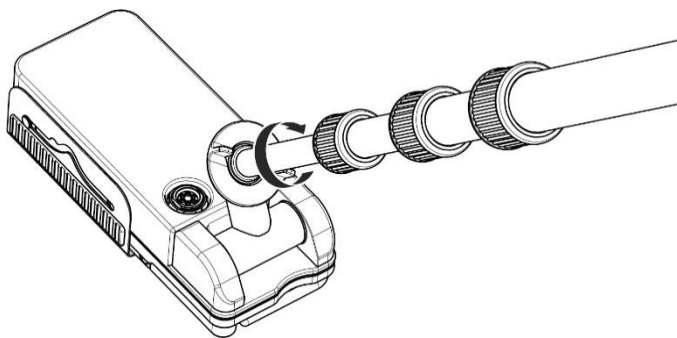

Figure 2.9 – Fixing telescopic tube to ABG probe
2.2.6.3 Screw the telescopic tube on the ABG probe's holder (Figure 2.9)